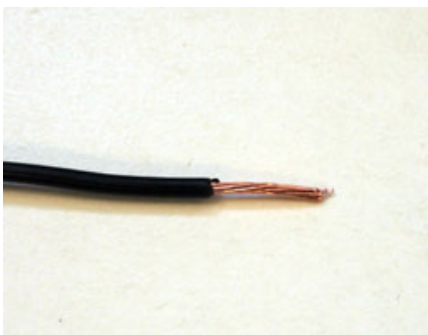

Figure 2. An example stripped wire.
2. Have groups proceed to construct their conductivity probes. The basic steps entail twisting the nichrome wire onto the exposed end of one insulated copper wire and then soldering the nichrome wire to the insulated wire, and repeating. Then the two wires are taped onto opposite sides of the pen barrel. Refer to Figures 2 and 3.